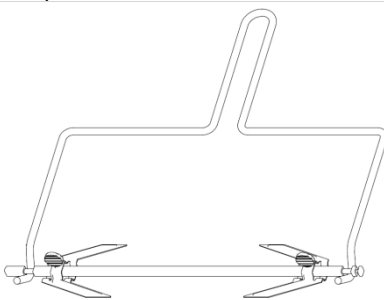

Fig. 6
- Always use the rotisserie handle to remove the spit from the oven when hot. Place the hooked ends of the rotisserie handle under the spit and into the notches (figs 6 & 7) and lift out.